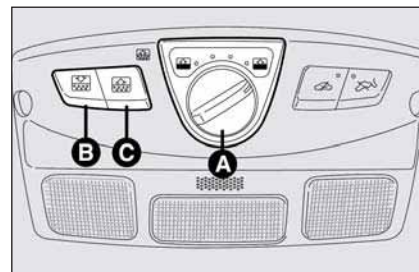

fig. 90
With fully closed sunroof (knob at 0), turn knob **A**-fig. 90 clockwise and select one of the five possible opening positions.
Turn knob **A**-fig. 90 counter-clockwise and select one of the possible five closing positions.
Every position corresponds to a type of sunroof closing. For closing the sunroof fully with just one operation, set the knob **A**-fig. 90 to 0.
Press button **B-fig. 90** to open the sun curtain fully. Press the button again to stop it.
To close the sun curtain press button **C-fig. 90**. Press the button again to stop it.
- ☐ turn knob **A-fig. 90** fully counter-clockwise;
- ☐ press and keep knob **A-fig. 90** pressed until the sunroof locks, then release it;
In this case it is possible to inhibit the anti-crushing system by closing the roof (within 5 seconds from system activation), turning knob **A-fig. 90** to 0 and keeping it pressed upwards until closing.